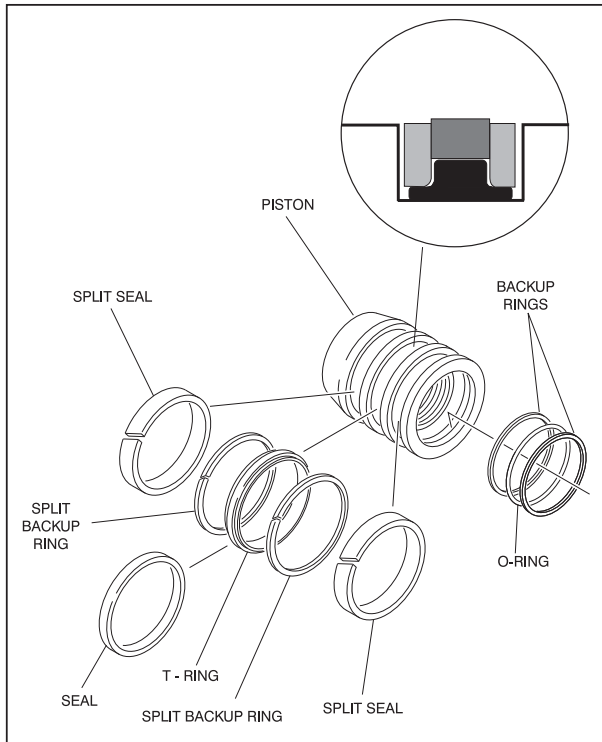

Figure 2-10. Piston Seal Kit Installation
NOTE: The backup rings for the solid seal have a radius on one side. This side faces the solid seal. (See magnified insert in Figure 2-10.) The split of seals and backup rings are to be positioned so as not to be in alignment with each other.
16. Place new guide locks and seals in the applicable outside diameter grooves of the cylinder piston. (See Figure 2-10., Piston Seal Kit Installation)